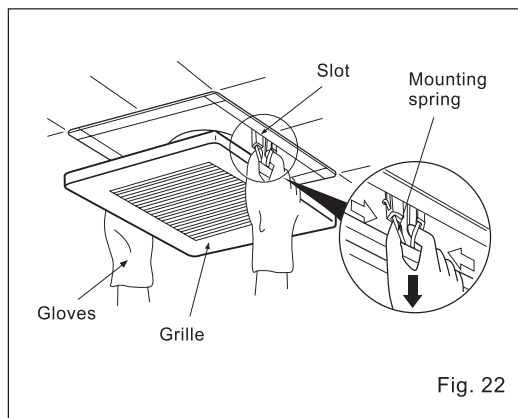

Fig. 22
1. Remove grille. (Squeeze mounting spring and pull down carefully.) (Fig. 22)